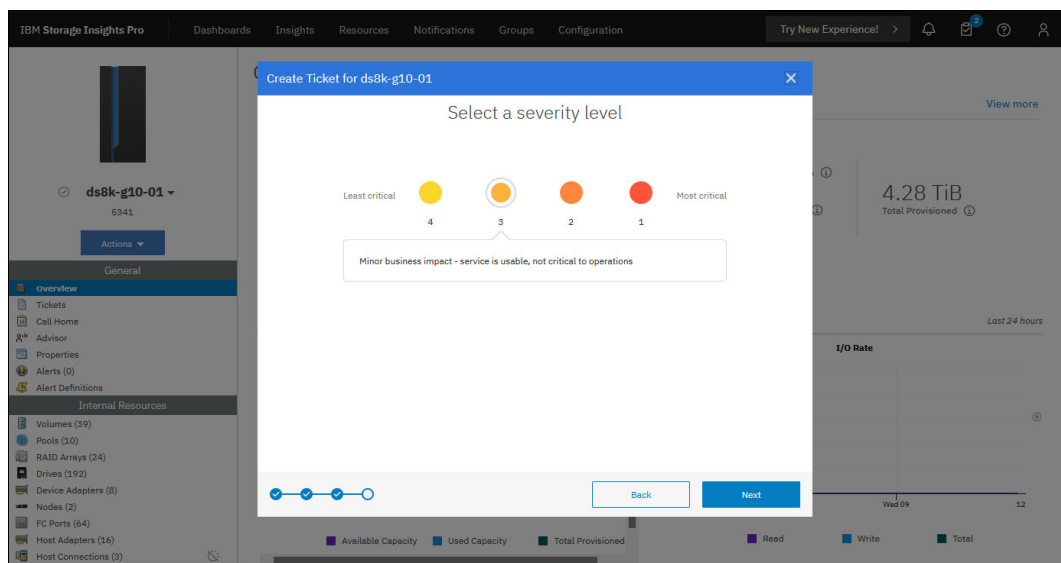

Figure 12-23 IBM Storage Insights: Severity level
- Click **Next**. In the window that is shown in Figure 12-23, select the severity of the ticket.